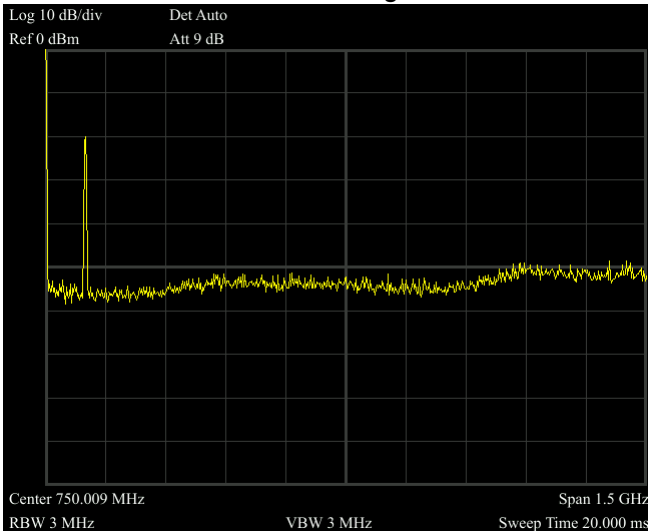

Figure 4-8 Full Span
- 1) Press “Preset” to reset the spectrum analyzer to factory settings. The Spectrum analyzer will display the spectrum from 9kHz to the maximum span width. The signal generated will display as a vertical line at 100MHz. Refer to Figure 4-8.